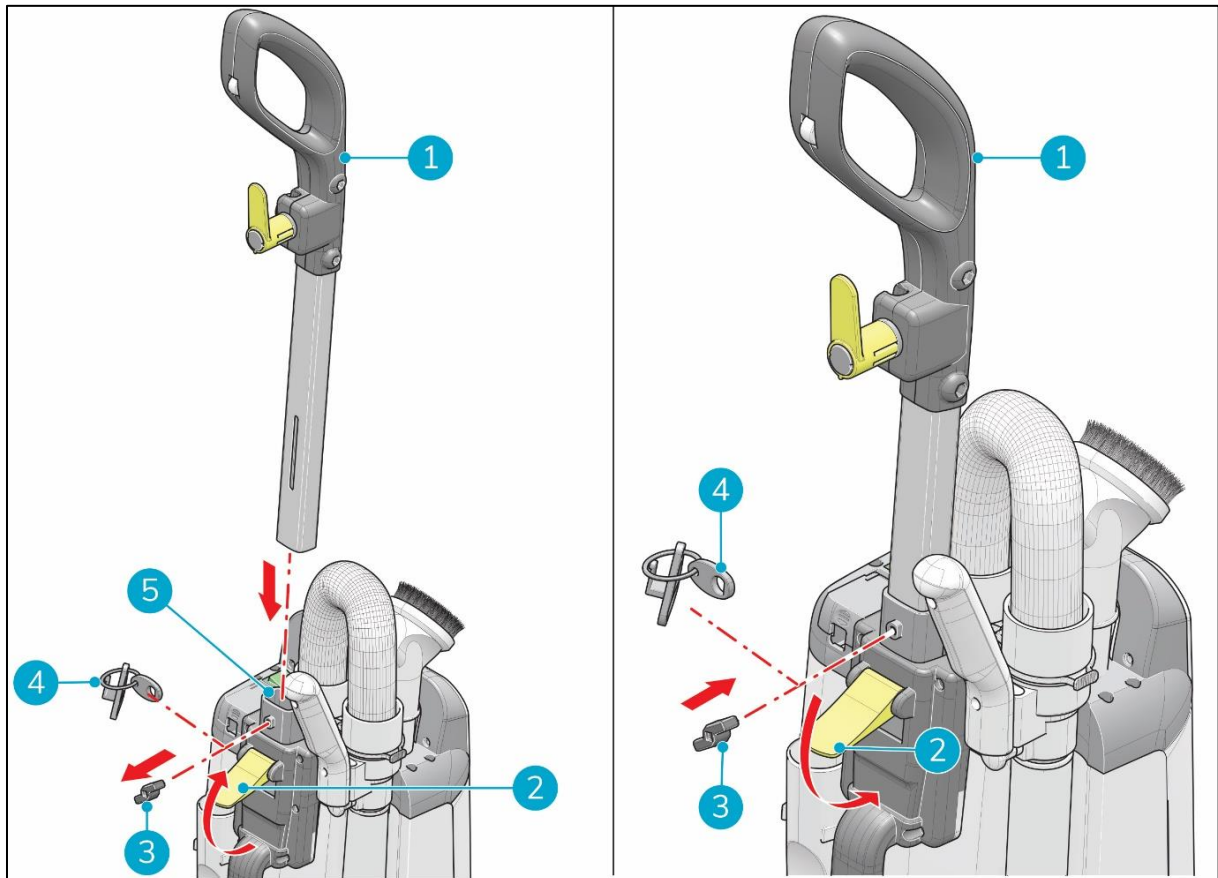

Figure 7
1. Remove the thumb screw (Figure 7, pos 3).
2. Keep the cable strain relief (Figure 7, pos 4) at hand.
3. Release the latch (Figure 7, pos 2).
4. Place the handle (Figure 7, pos 1) into the handle intake (Figure 7, pos 5).
5. Insert the thumb screw (Figure 7, pos 3) into the cable strain relief (Figure 7, pos 4).
6. Tighten the thumb screw (Figure 7, pos 3).
7. Fasten the latch (Figure 7, pos 2).